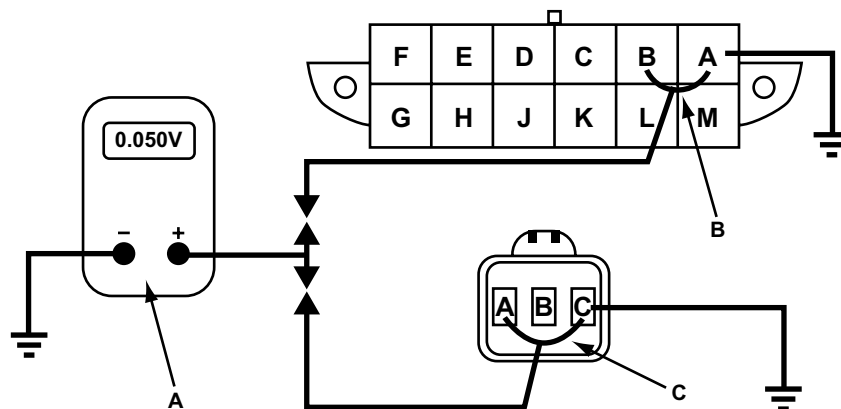

Figure B-5 Ground continuity for the ALDL connector
- The meter should read 50 millivolts (0.050 V) or less for a good ground (Figure B-5 on page 437).